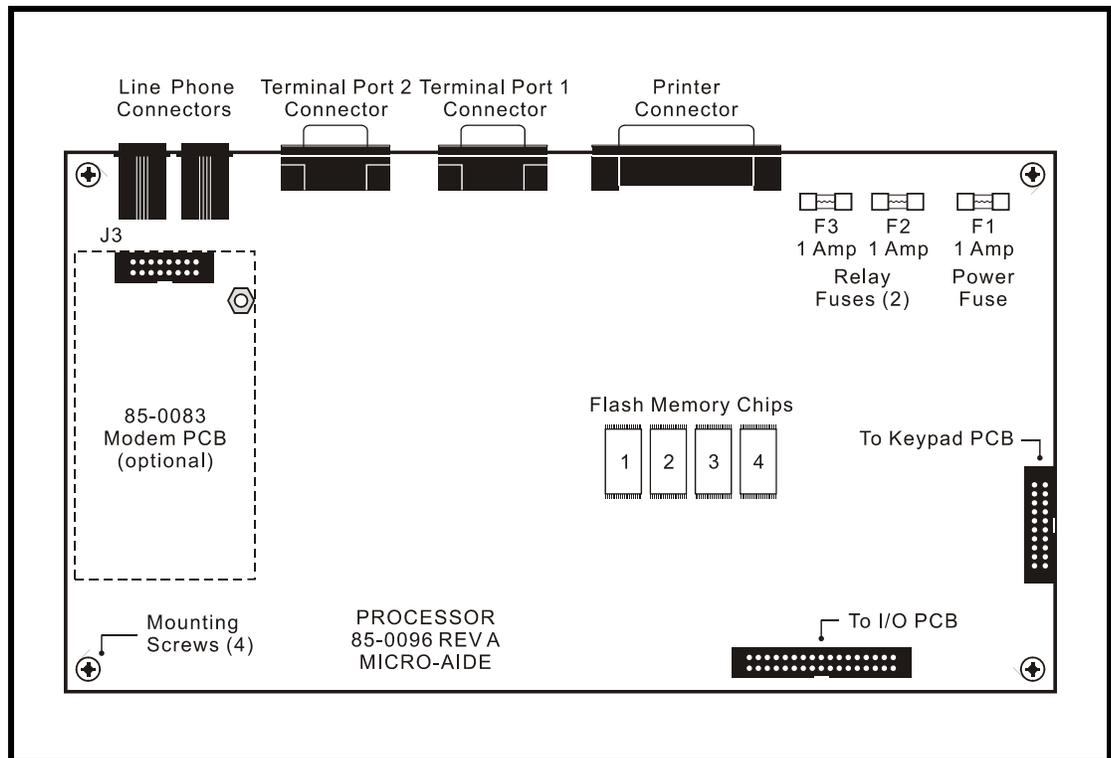

Figure 6 - CWR-272 Processor PCB
2. Locate the sixteen-pin male connector labeled “J3” near the upper left-hand corner of the Processor PCB. The modem connector is illustrated in Figure 6 on page 83.